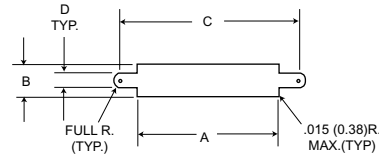
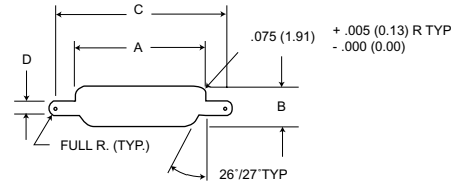

Figure 1
Figure 2
1. Front mounting (figure 1) and rear mounting (figure 2) accommodates #2-56 screws when jackscrew are used. See detail on page 24 when jackposts are used.
2. Front mounting is preferred. However, when rear mounting is necessary, use figure 2 dimensions.